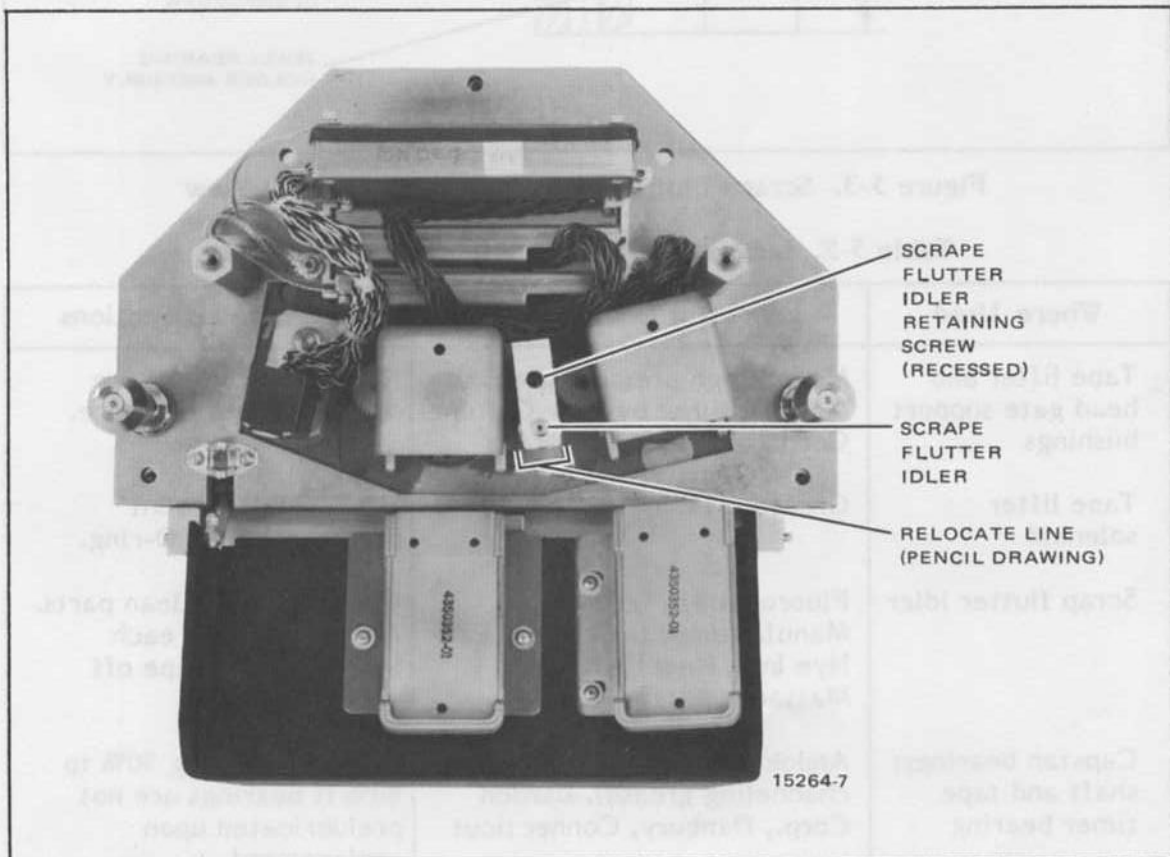

Figure 5-2. Scrape Flutter Idler Mounting Screw Location
- STEP 3 Loosen scrape flutter idler retaining screw shown in Figure 5-2 and remove idler from head assembly base. Before removal, mark around base of idler yoke with relocate lines (Figure 5-2) to facilitate reinstallation.
- STEP 6 With upper bearing clamp screw still loose, remount idler onto head base plate with front and side of yoke even with the relocate lines on base plate (Figure 5-2).